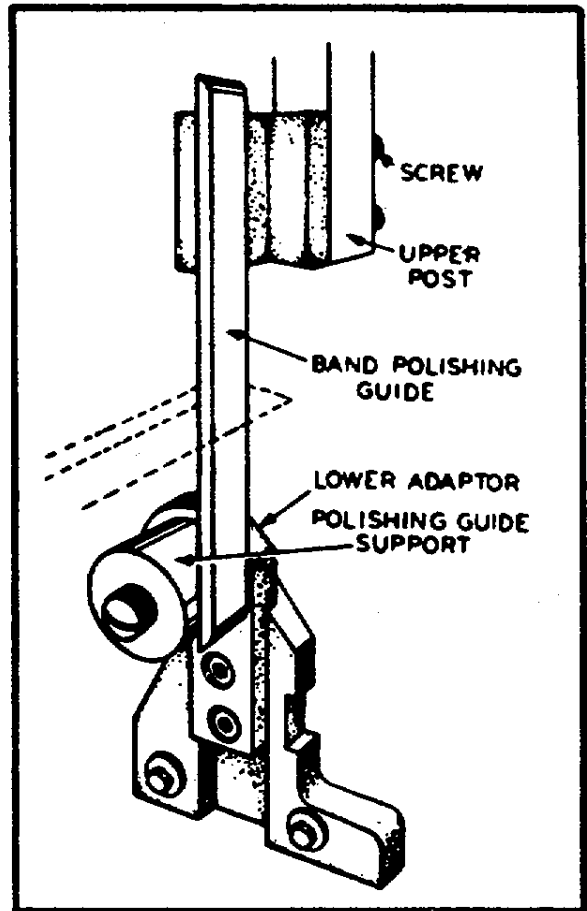

Fig. 28 - Upper and lower polishing guides.
DoALL abrasive bands are manufactured to withstand high finishing and polishing temperatures. Abrasive bands are 1 in. wide. These bands are mounted over the saw carrier wheels in the same manner as saw bands; however, a rigid backup support is used which has a graphite impregnated facing. This backup support is mounted to the saw post in place of the saw guides (fig. 28).
- (1) Remove the table center disk.
- (2) Mount the polishing band guide back-up support to the lower adaptor as for filing (fig. 28).
- (3) Lower the post to 4-in. from the table and mount the band-polishing guide on the post with the two thumb screws.
- (4) It would be well at this point to rub graphite powder into the guide fabric to lubricate and increase the life of the polishing bands.